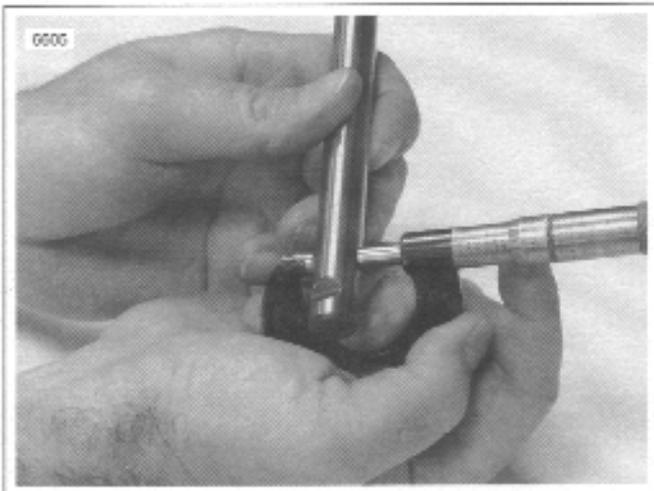

Figure 3-70. Measuring Rocker Arm Shaft Diameter (Rocker Arm Bushing Position)
- b. See Figure 3-70. Measure where rocker arm bushings ride.